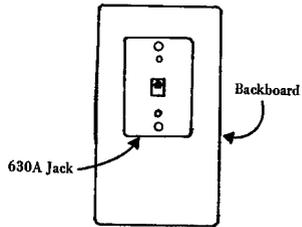

FIGURE 8. 191B Backboard
**2.10 191B Backboard (Figure 8):** This backboard is designed to act as a frame around the 630A jack. It is used to cover up wall imperfections adjacent to the jack. It is held in place by a self-adhesive backing.